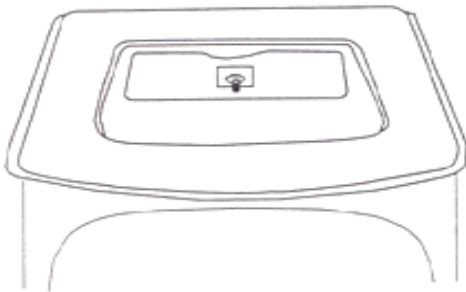

Fig. 1 Damper lock nut
4. When the damper closes smoothly and snugly, tighten the lock nut and replace the griddle. (Fig. 1)